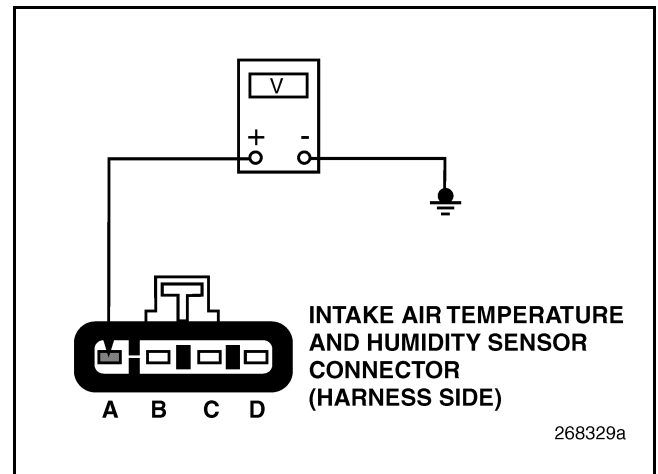

Figure 320
4. Measure the voltage between the Intake Air Temperature and Humidity (IATH) Sensor harness connector pin A (reference voltage line) and a good ground (see Figure 320).